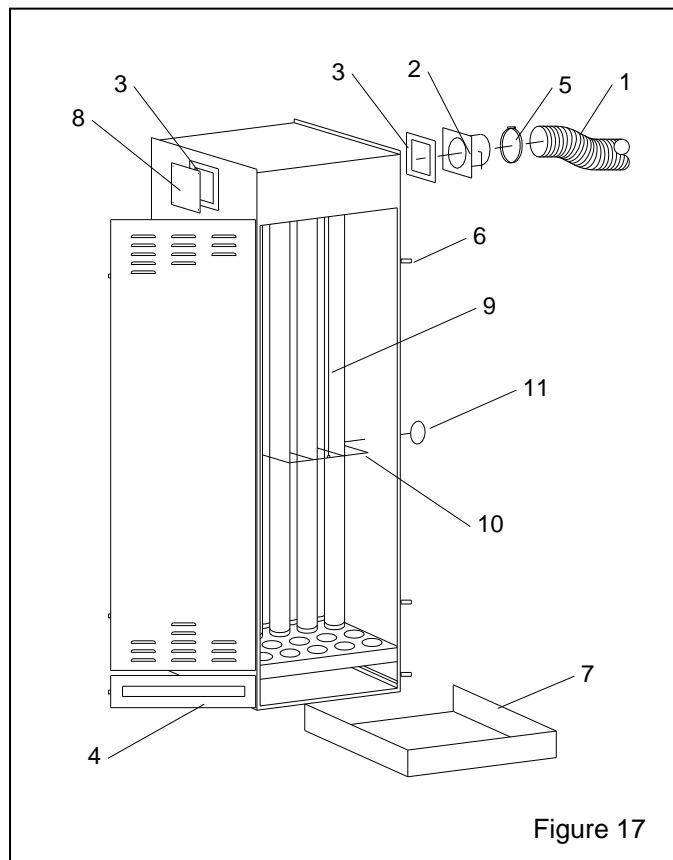

Figure 17
14.5 Dry Filter Dust Collector, 900 cfm, Figure 17